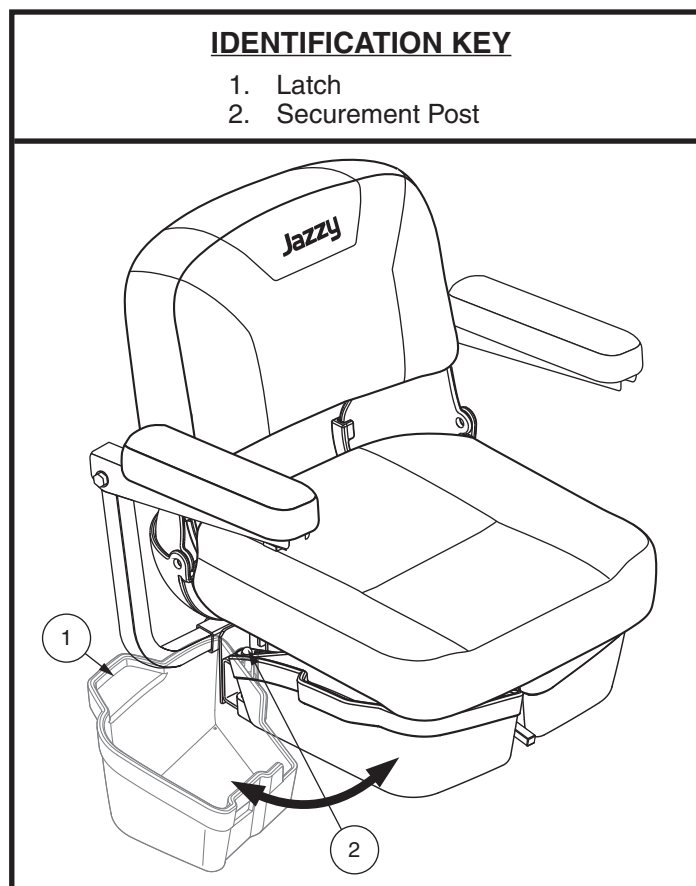

Figure 27. Under-seat Storage
1. Lift up slightly on the latch on the side of the under-seat storage bin (**see figure 27**) and swing the under-seat storage bin out and away from the Travel Scooter.
1. Lift up slightly on the latch on the side of the under-seat storage bin (**see figure 27**) and swing the under-seat storage bin out and away from the travel scooter until it is fully open.
2. If equipped, remove under-seat storage. **See Figure 27.**
7. If equipped, install under-seat storage. **See figure 27.**